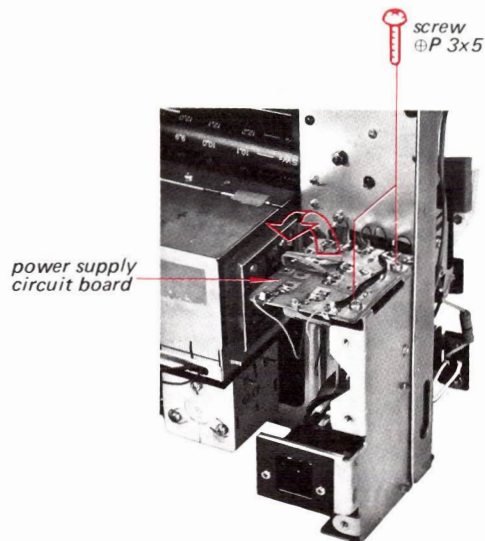

Fig. 2-13
1. Remove the two screws shown in Fig. 2-13.